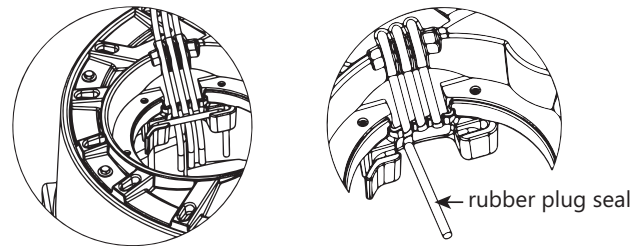

Figure 3. Proper Cord Sealing Behind QuickTree Rod
After service or inspection of the floats, re-insert the QuickTree into its holder. It is important that cords from the pump motors and float switch, and optional alarm float are properly sealed in the specially designed rubber sealing channels under the access cover. Proper sealing is required to keep sewer gas from leaking from the system. Place the cords securely in the rubber channels as shown in Figure 3 [left], being careful to remove excessive cord "slack" from inside the system.
**IMPORTANT:** Three cord channels are provided. For systems without the alarm option, only two channels are used and the third must be "plugged" with an attached rubber plug seal. See Figure 3 [right]. If the alarm cord is present, all three channels will be used. All rubber cover gaskets are permanently attached and do not require replacement.